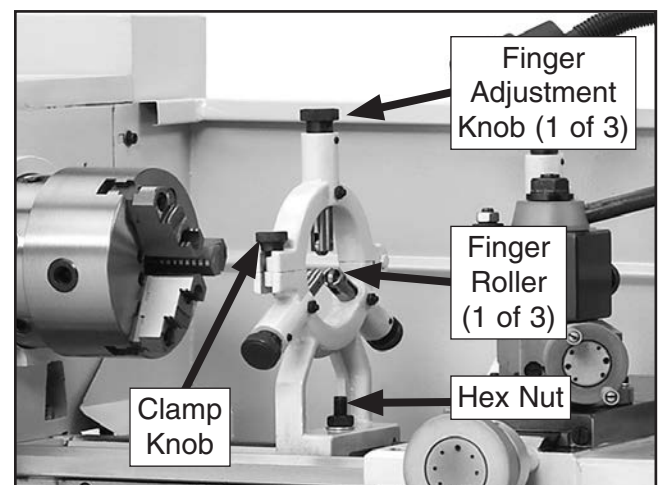

Figure 51. Steady rest components.
2. Loosen clamp knob that secures top half of steady rest (see **Figure 51**), and open top.